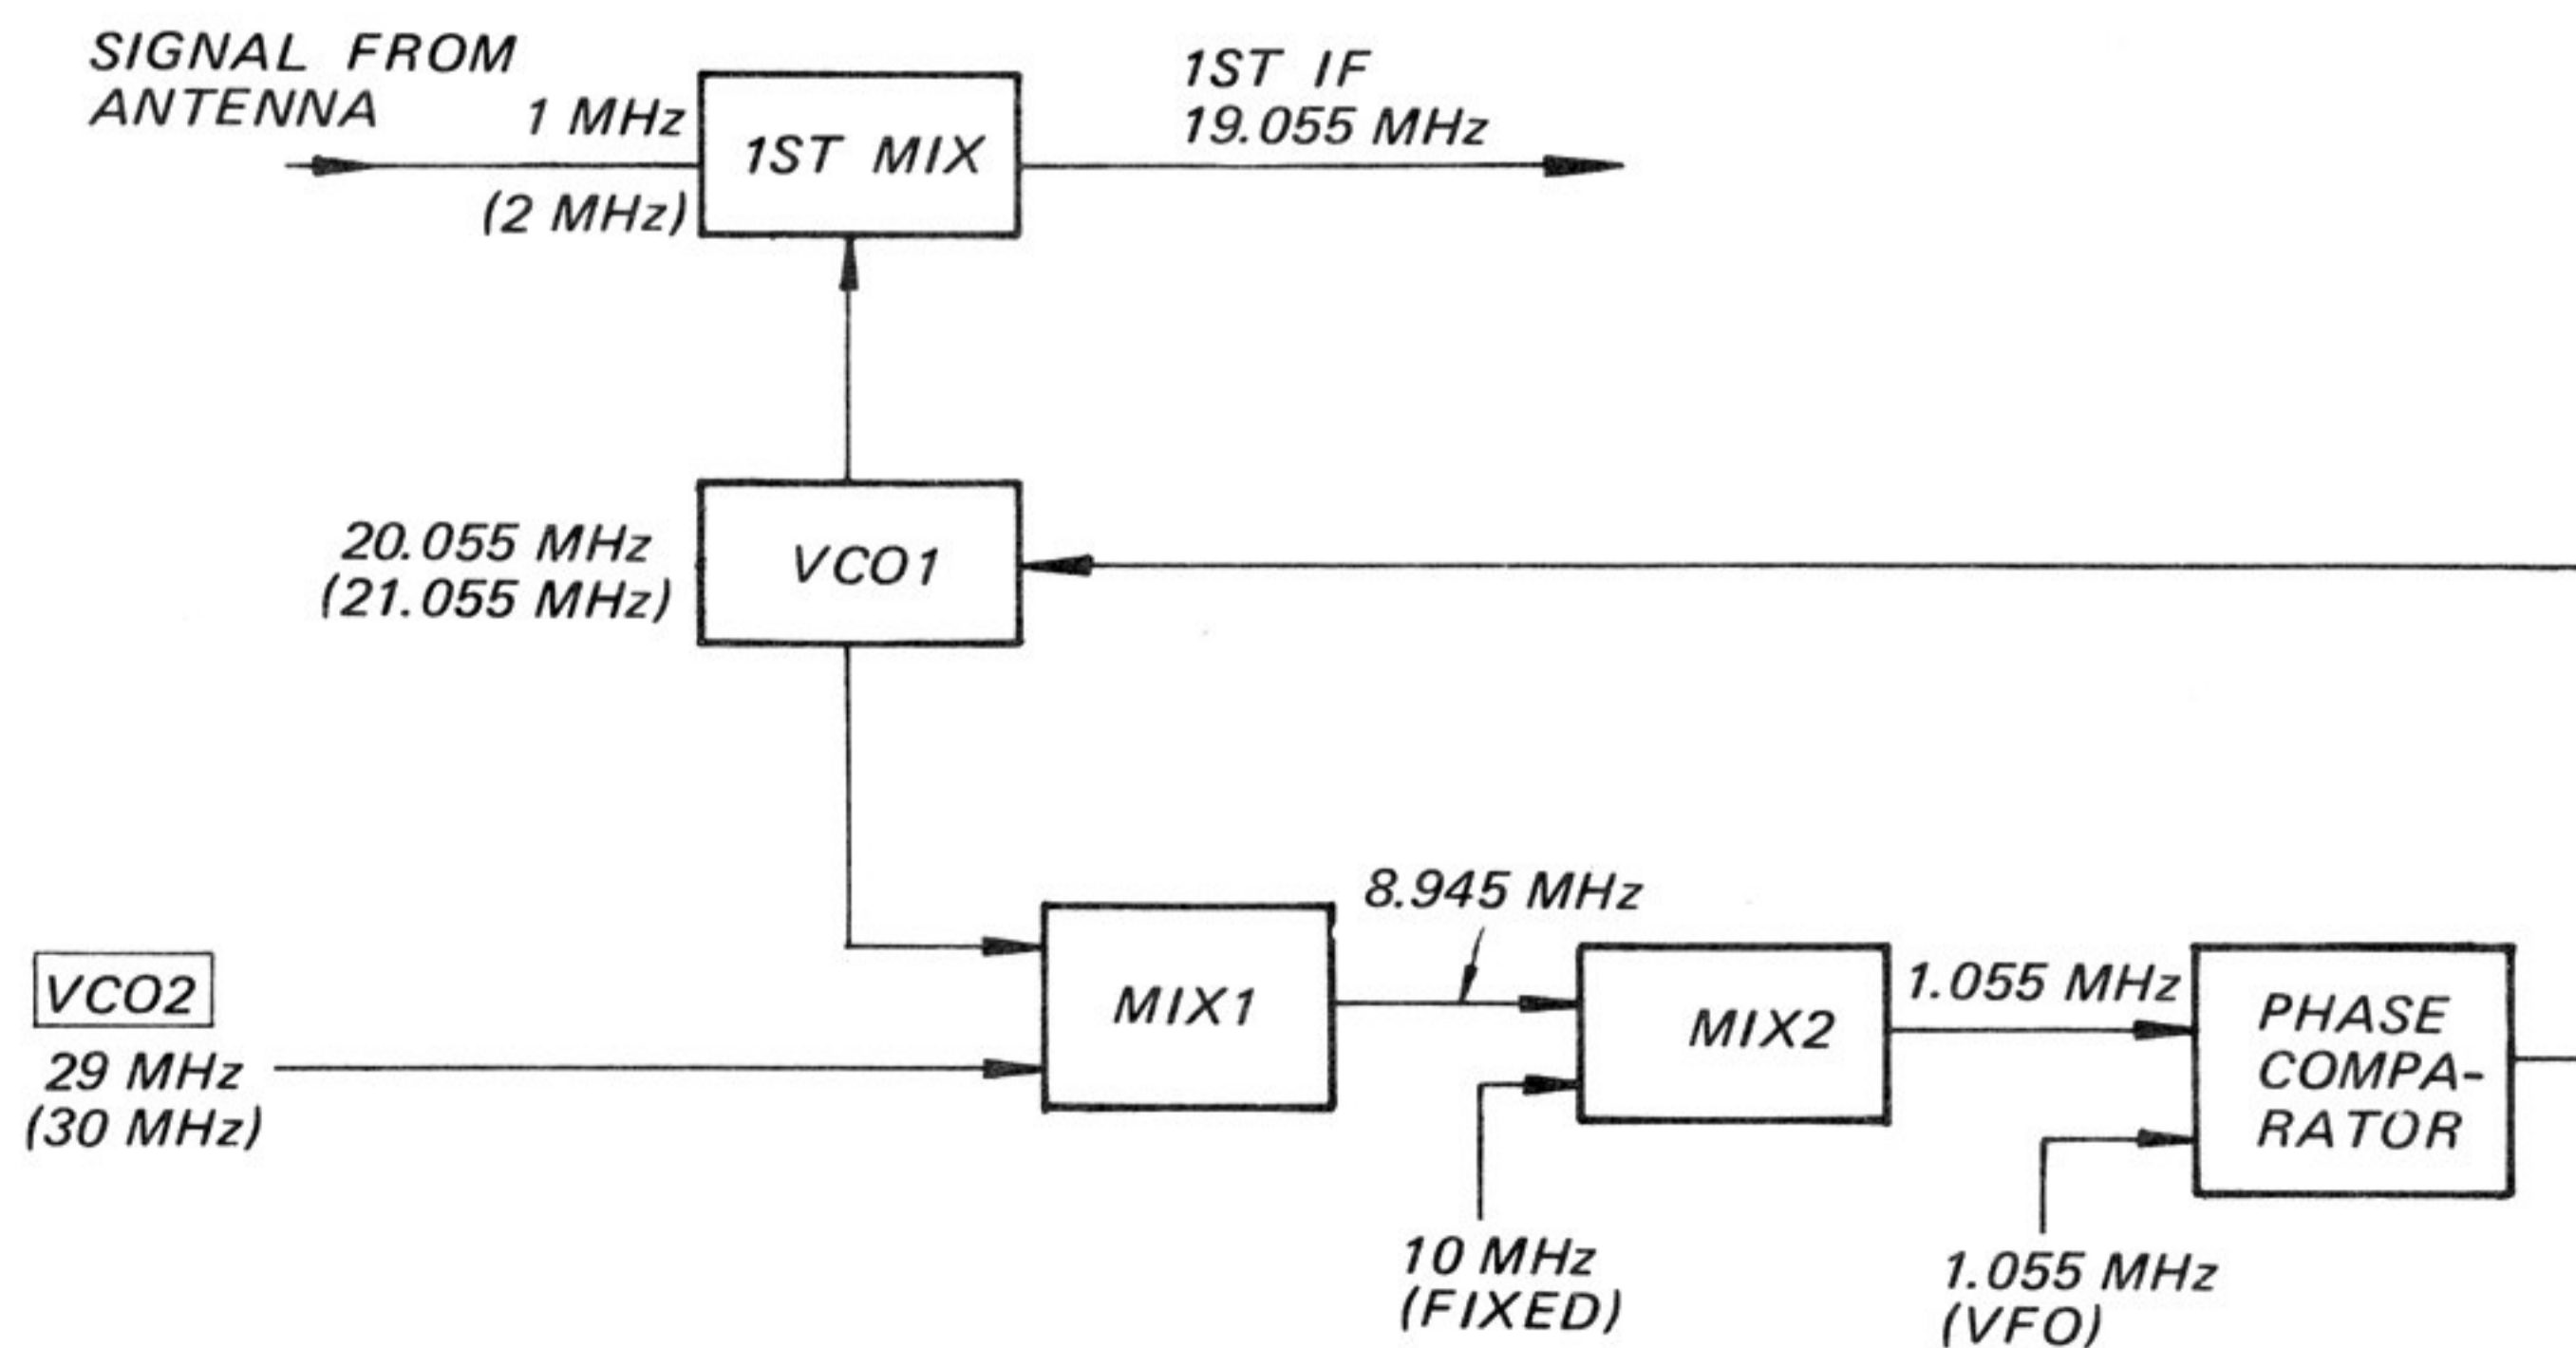
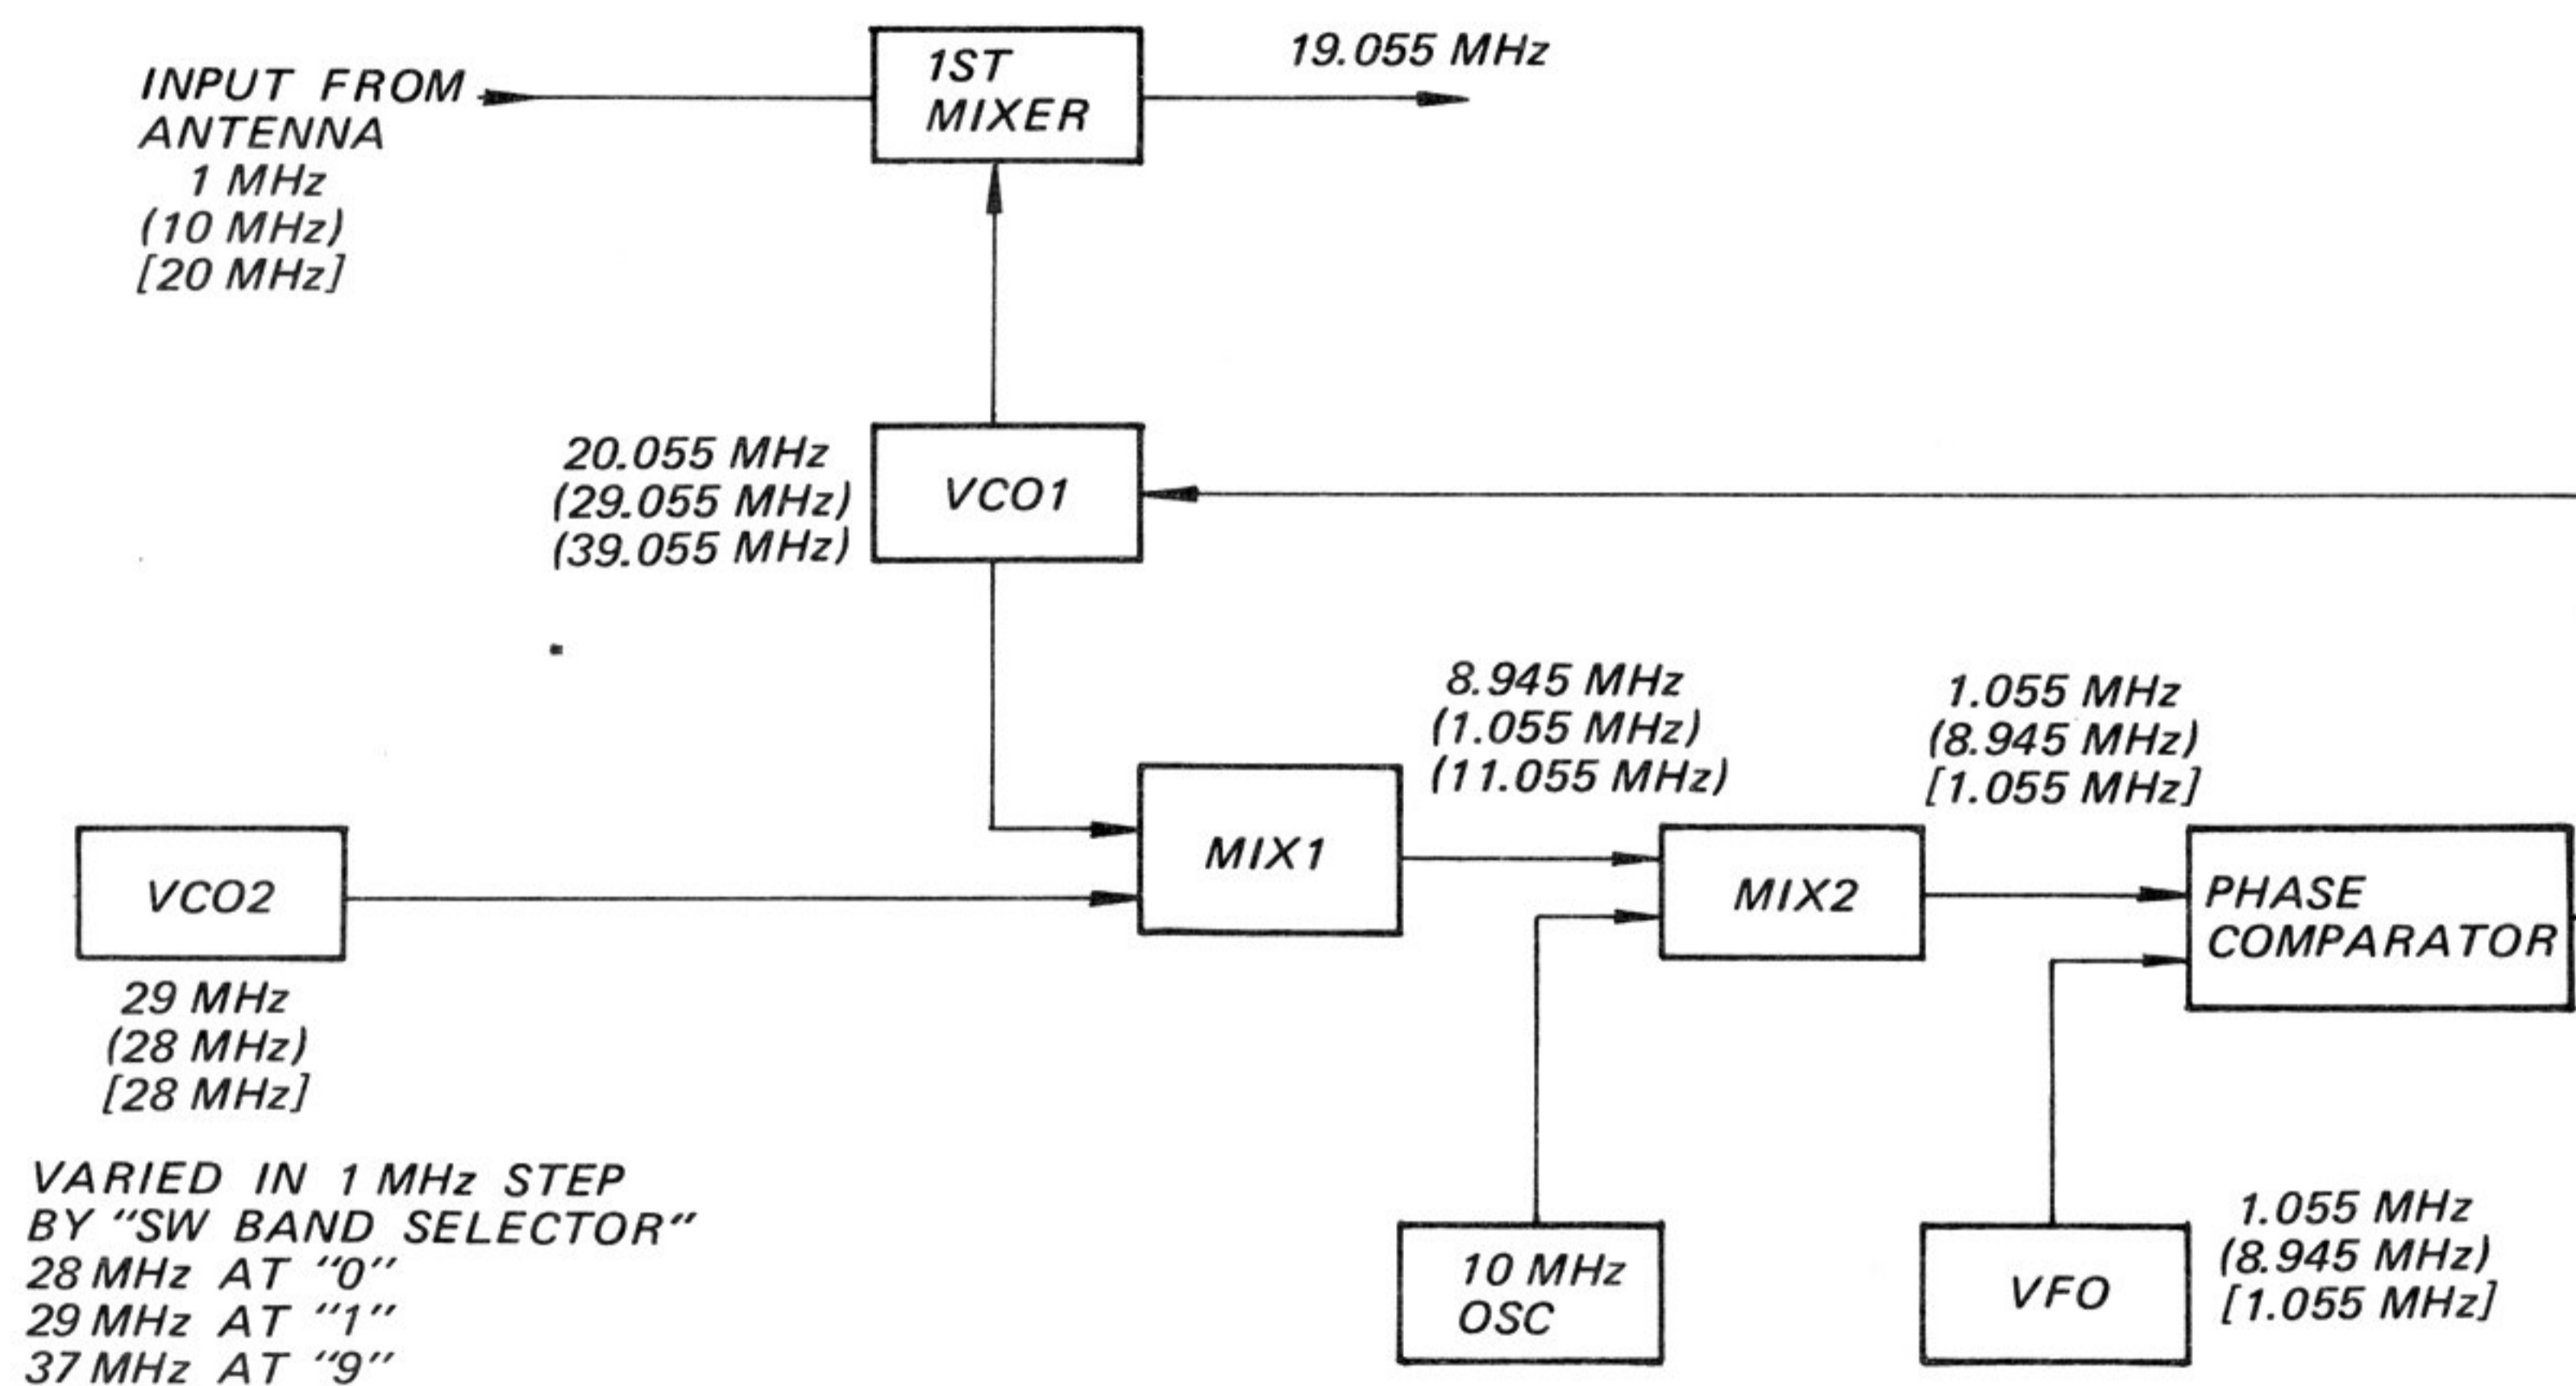

Fig. 5
Fig. 7
1) Fig. 5 is a block diagram showing the principle of the PLL circuit employed in this set. Let us consider this block diagram.
When the two signals are mixed by the mixer 2, a 1.055 MHz signal (10 - 8.945 = 1.055 MHz) is produced as the output of the mixer 2, and is then fed to the phase comparator. Meanwhile, a separate signal from an oscillator is also fed to the phase comparator as shown in Fig. 5 [Hereinafter, this oscillator will be referred to as the VFO.]
With a PLL circuitry as shown in Fig. 5, it is the stability of the three oscillators, VCO2, the 10 MHz fixed oscillator, and the VFO, that determine the overall stability of the PLL. By using a crystal oscillator for the 10 MHz fixed oscillator, ample stability can be obtained. As for the VFO, since its oscillator frequency is not so very high, stable oscillation can be obtained even with an L-C oscillator.
Fig. 7 is essentially the block diagram shown in Fig. 5 to which the frequencies of each of the sections are indicated when receiving 1 MHz, 10 MHz, and 20 MHz signals.
The following frequencies are fed out from the output of the mixer 2 when receiving a 10 MHz signal as indicated in Fig. 7.
The frequency of VCO1 is controlled by first comparing the signals by the phase comparator, obtaining the difference in the form of a voltage difference, and feeding this differential to the variable capacitance diode of VCO1. As shown in Fig. 7, whether it is a 1 MHz, 10 MHz, or 20 MHz signal that is being received, the frequency that is fed to the phase comparator is always 1.055 MHz. This would make it seem that VCO1 will constantly be oscillating at the same frequency, however, the oscillator circuit of VCO1 is switched by means of a switch for 1 MHz level signals, 10 MHz level signals, and 20 MHz level signals, and so it never oscillates at the same frequency.